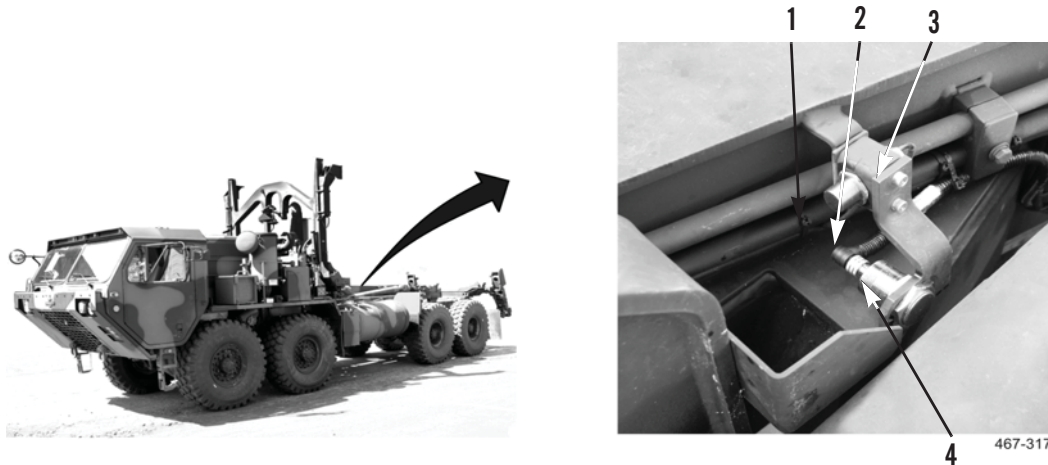

Figure 14. Hook Arm Sensor Installation.
1. Insert hook arm sensor (Figure 14, Item 2) into bracket (Figure 14, Item 3) and loosely install locking nut (Figure 14, Item 4).
2. Connect electrical connector (Figure 14, Item 1) to hook arm sensor (Figure 14, Item 2).